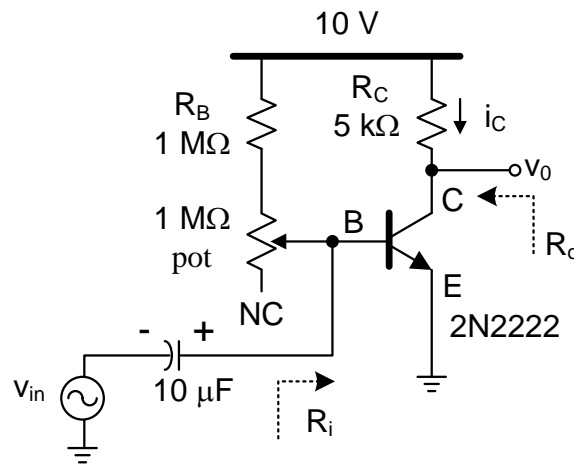

Fig. 2. BJT transistor circuit 1
1. Assume the transistor you will use has a β of 155 and $V_{BE(on)} = 0.65$ V. For the circuit in Fig. 2, calculate the overall resistance (R_B and pot) such that $I_C = 1$ mA.
5. Construct the circuit in Fig. 2 in PSpice and find the small signal parameters g_m and r_o . Compare PSpice results and calculations. Explain the differences, if any.
2. Connect the circuit in Fig. 2. The power supply is 10 V.